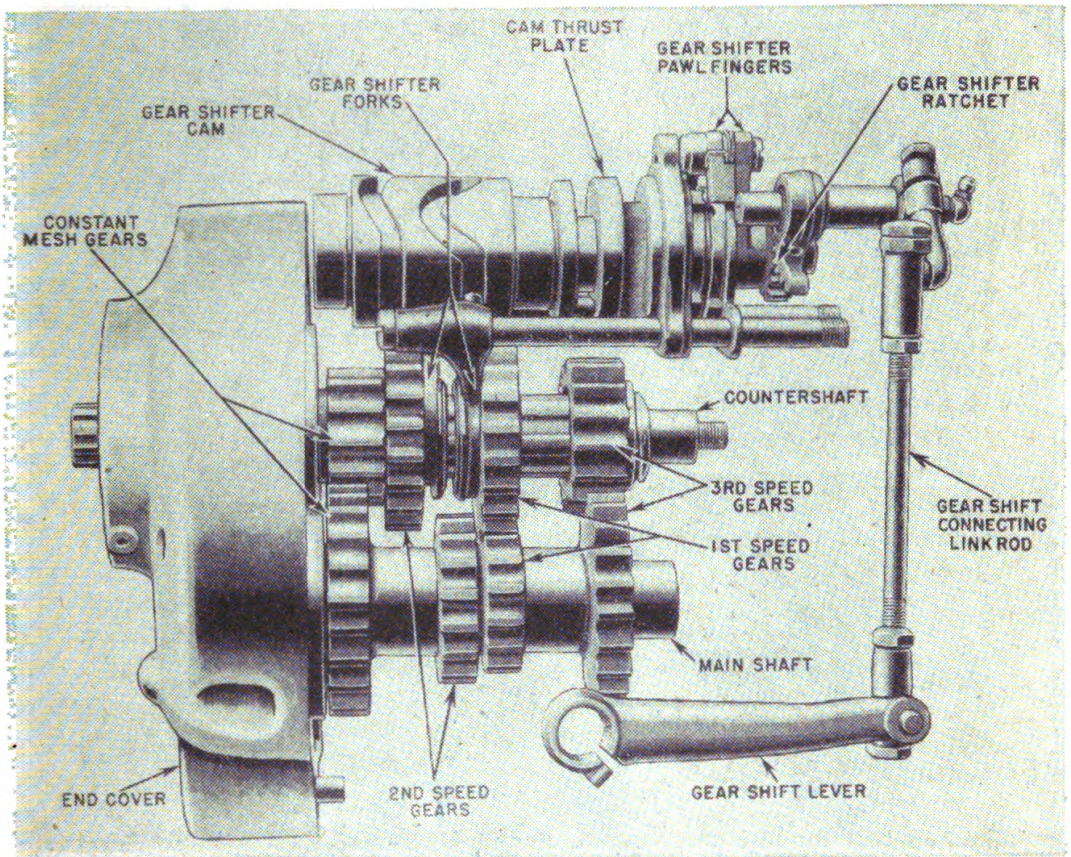

FIGURE 51.—Transmission of shaft-driven Indian.
*b.* The Indian transmission is shown in figure 51. The first, second, and third speed-driven gears float on the splined countershaft, but are not in constant mesh. As the shifter cam is rotated slightly by the gear shift linkage, the shifter fork pins following the inclined slots cut in the cam, move the proper countershaft gears in mesh with